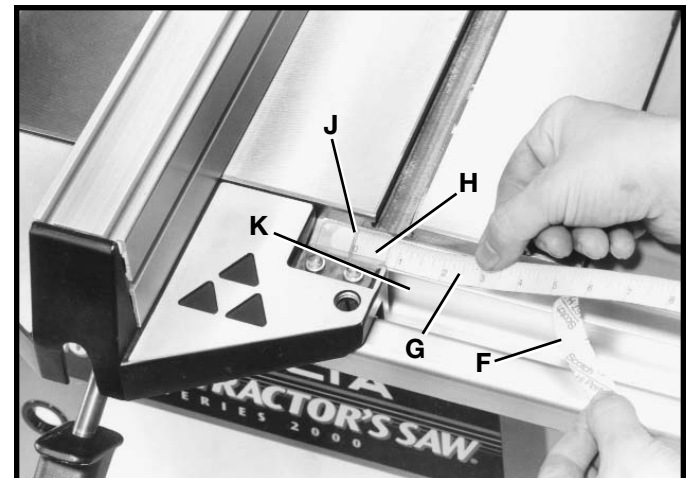

Fig. 16
3. Partially remove the backing (F) Fig. 16, from scale (G) as shown. Position scale under cursor (H) until "zero" mark on the scale (G) is directly under the cursor line (J). Lightly press down on scale (G) so it adheres to guide rail (K).